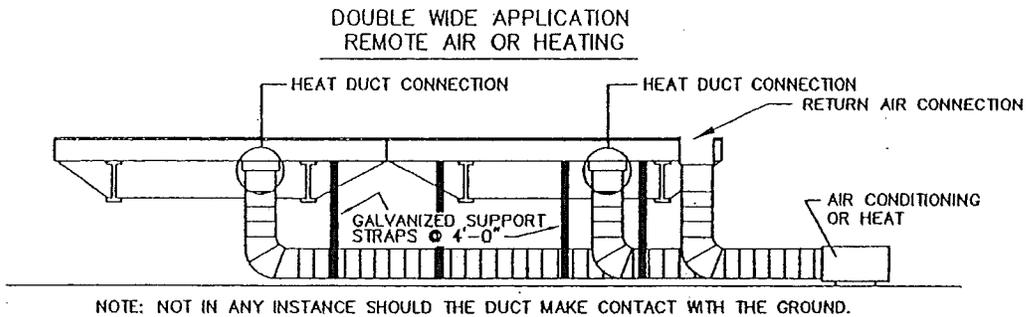

FIGURE 6-2
**6-2.1** If a self-contained central air conditioning unit is to be used (separate from the furnace) an automatic damper to prevent cooled air from blowing up into the furnace will have to be installed in the furnace base. Depending on the furnace installed in your home, this damper may already have been installed at the factory, or in some cases, the furnace may be of a type which is labeled as suitable for use with air conditioning without such a damper. In addition, the ducts carrying cooled air from the air conditioning unit into the home and return air from the home to the air conditioning unit (See Figure 6-2), must contain dampers or be installed in such a way so that when the furnace runs, heated air does not blow through these ducts into the air conditioning unit.